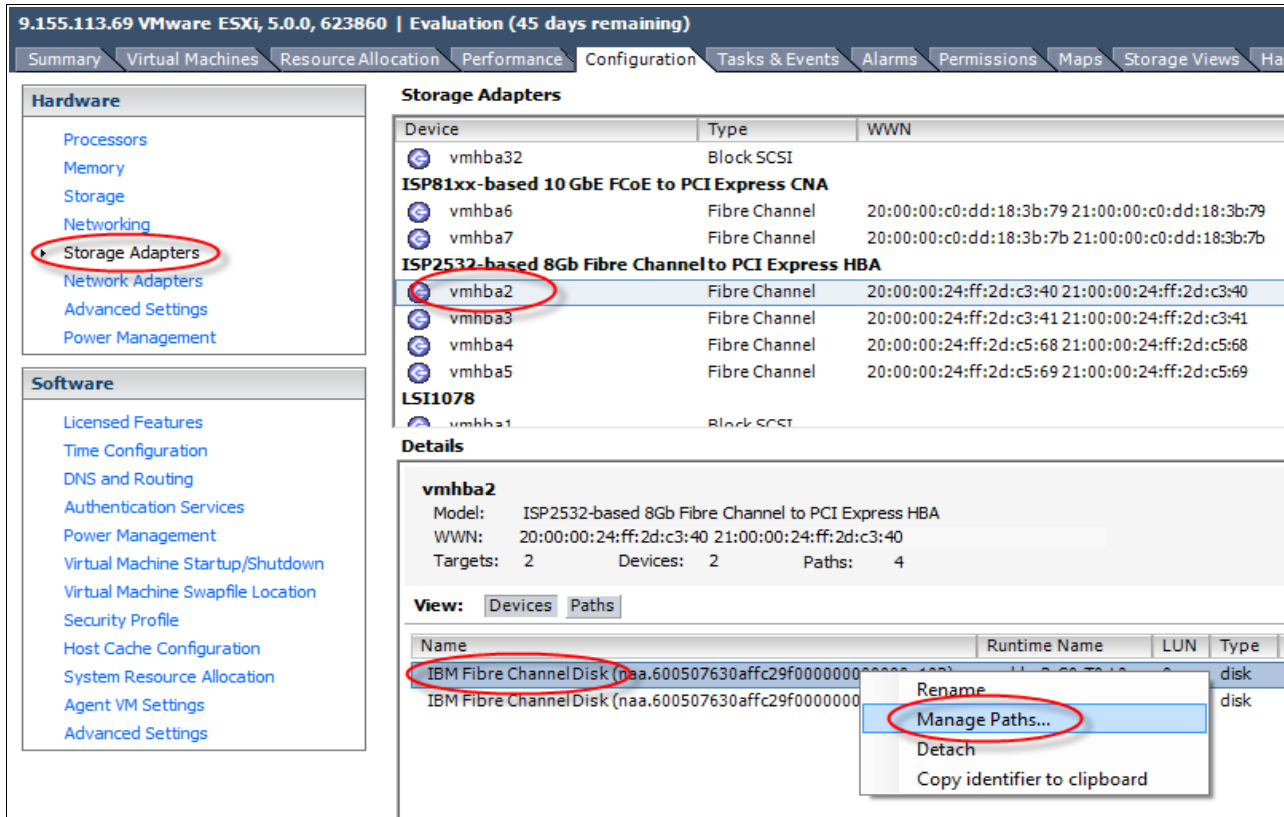

Figure 7-43 Show LUNs attached to ESXi host
1. Go to **Configuration** → **Storage Adapters**, select one of the Fibre Channel HBAs connected to the DS8000, right-click one of the LUNs listed, and select **Manage Paths** as outlined in Figure 7-43.